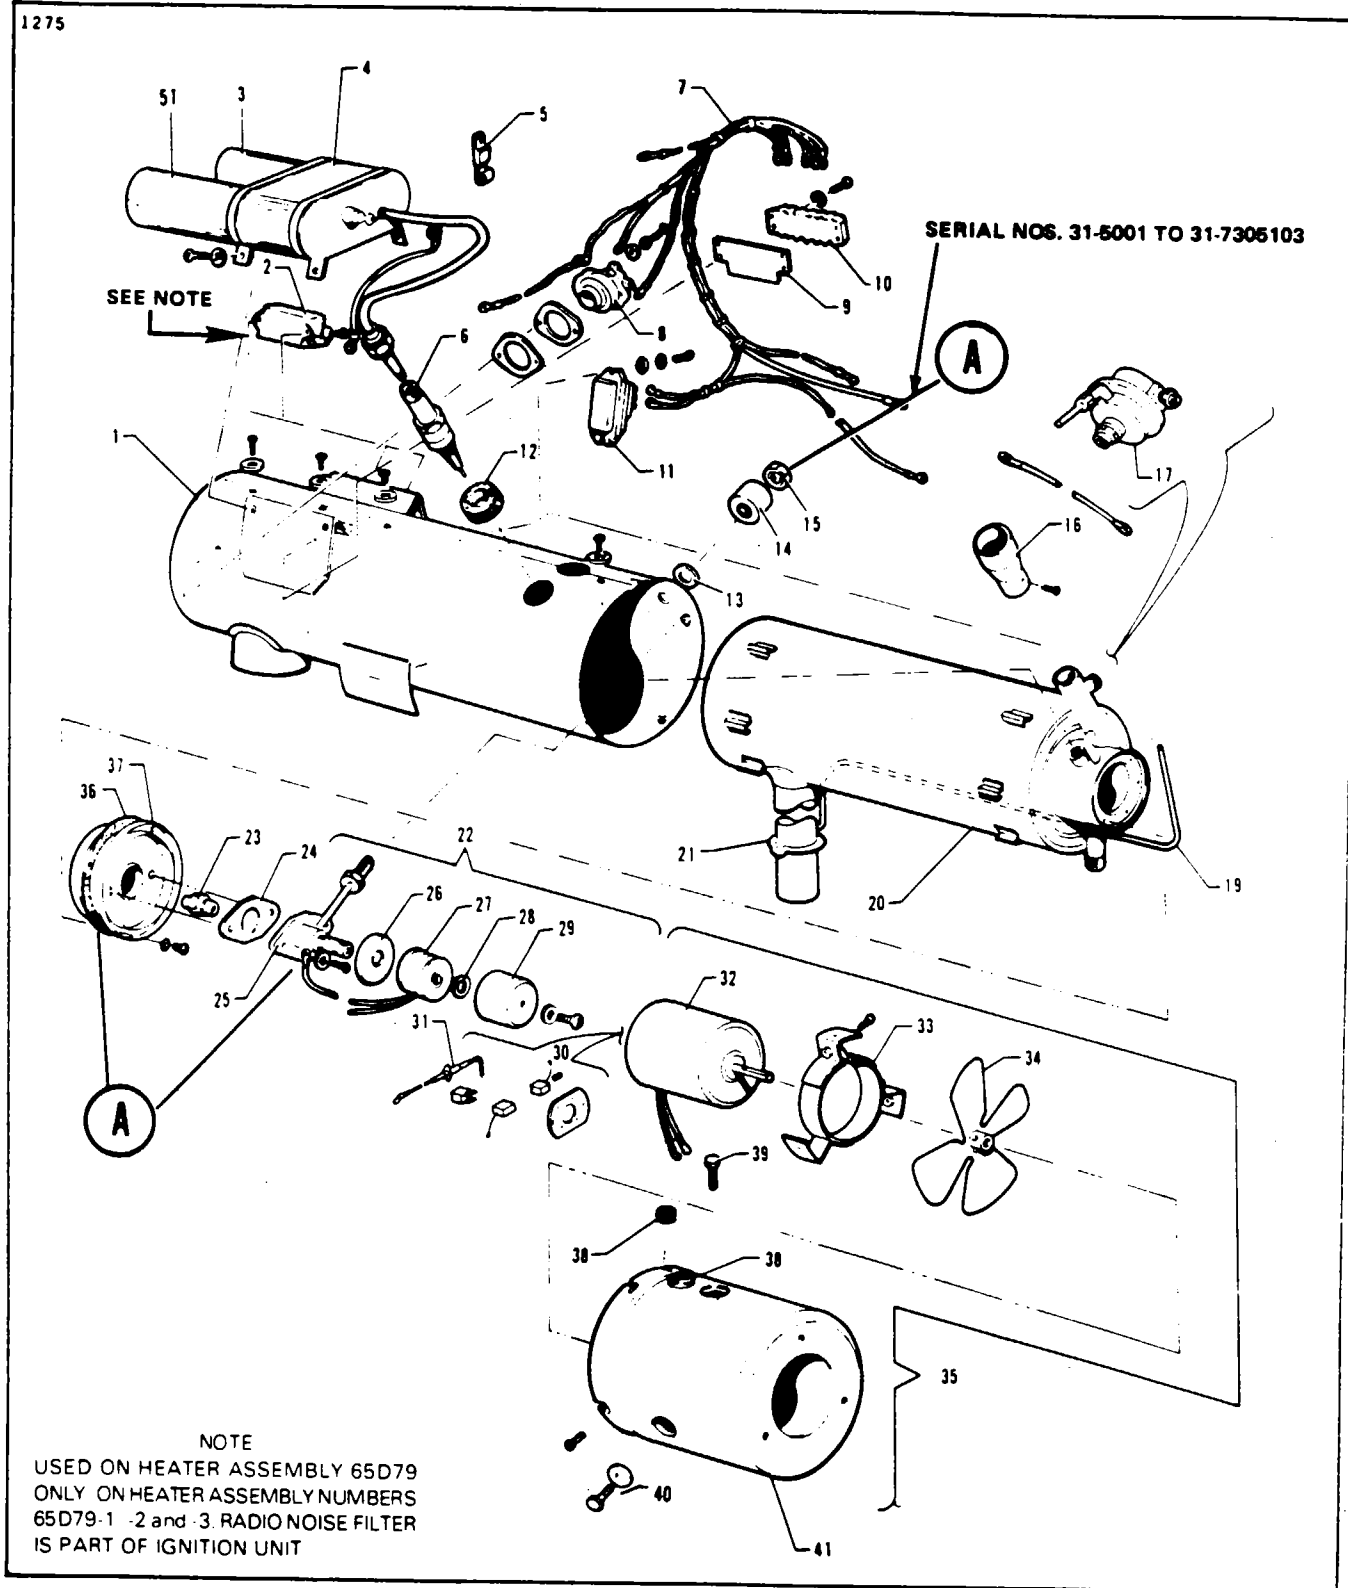

Figure 13-17. Exploded View of Heater Assembly
e. Spray test the nozzle (23) (Figure 13-17) as follows: